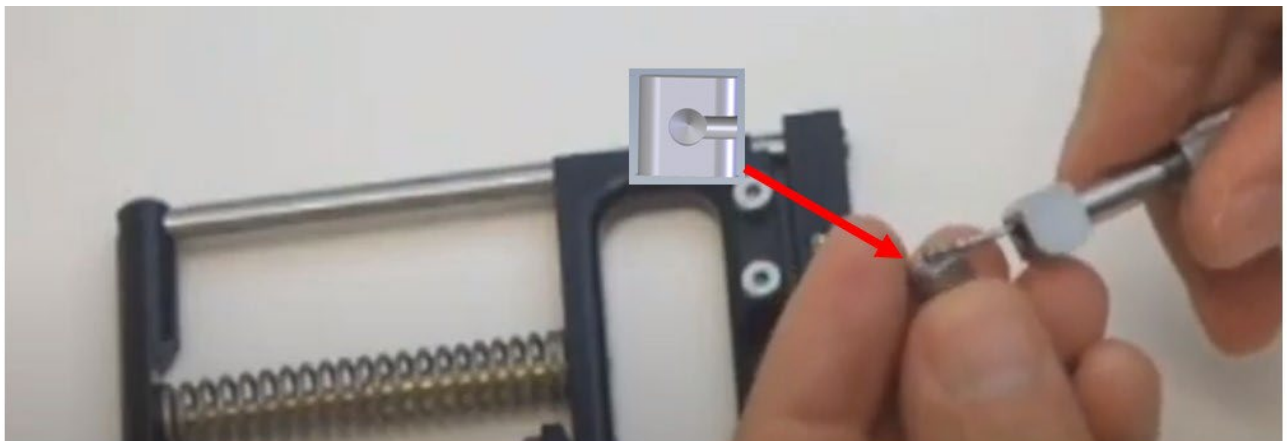

Figure 9 Locking Handle Cable Anchor
- 2) Remove Cable Anchor from Cable Ball End See Figure 9